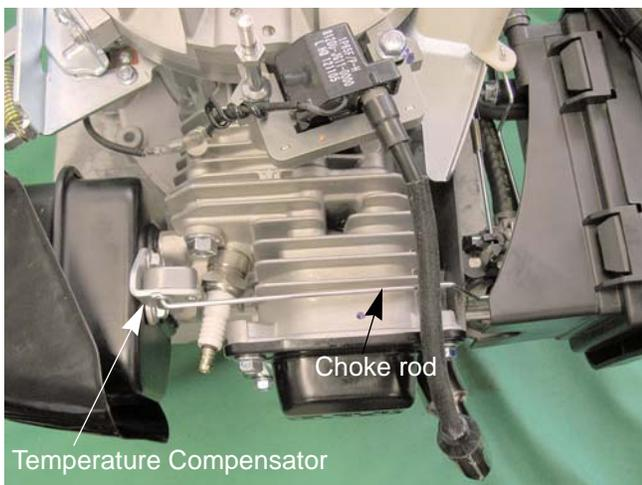

Figure 4.38
2. Remove the two screws that hold the compensator to the muffler using a 10 mm wrench. See Figure 4.38.